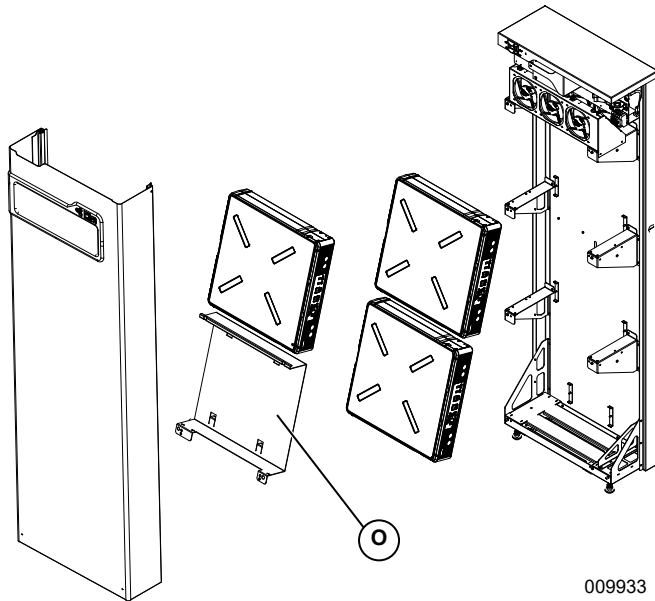

Figure 4-11. Module Spacer
See Figure 4-11. Module spacers (O) must be installed on any single module shelf.